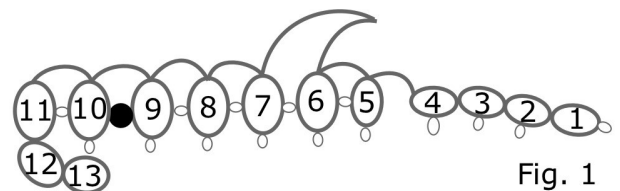

Fig. 1
**Starting at top from tail fin to head – see fig. 1**